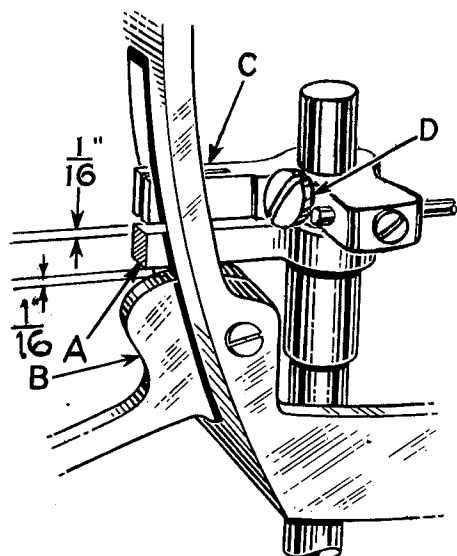

Fig. 8
The presser bar connection (A, Fig. 8) should be set so that it is 1/16 inch from the hand lifter (B) at all times.